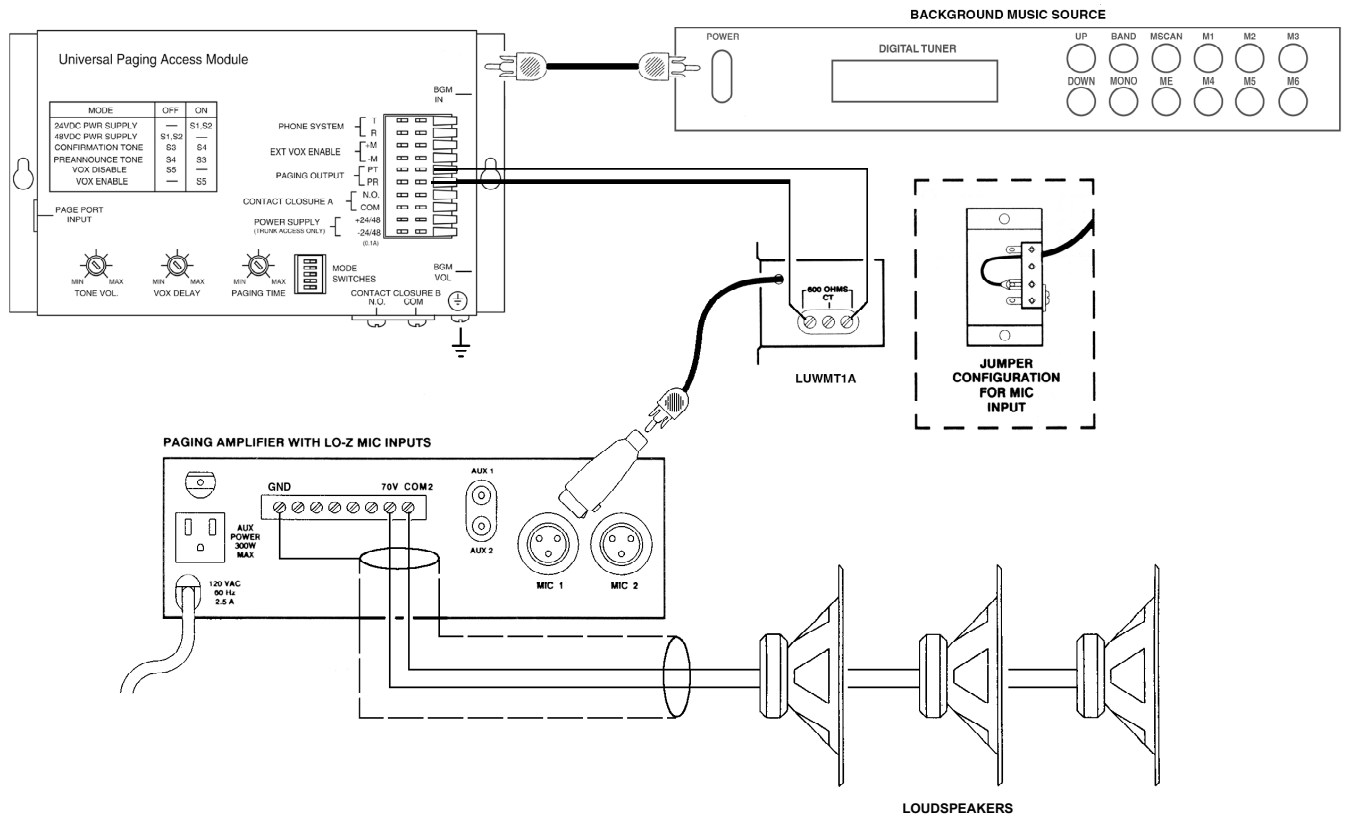

Figure 9. Typical Connection to a MIC Input
Due to the higher sensitivity of Hi-Z microphone inputs, they should be used only as a last resort. Both Hi-Z and Lo-Z inputs can be accommodated. The Lo-Z microphone connection is the more desirable of the two because it is less susceptible to noise pickup. The UPAM connects to the MIC input using the LUWMT1A transformer (see Figure 9). This transformer includes a microphone input modification to provide the proper attenuation.
1. Make sure the amplifier is turned off or unplugged. Modify the LUWMT1A transformer by moving the push-on lug to the center terminal on the terminal strip (see inset diagram in Figure 9 for proper jumper placement).